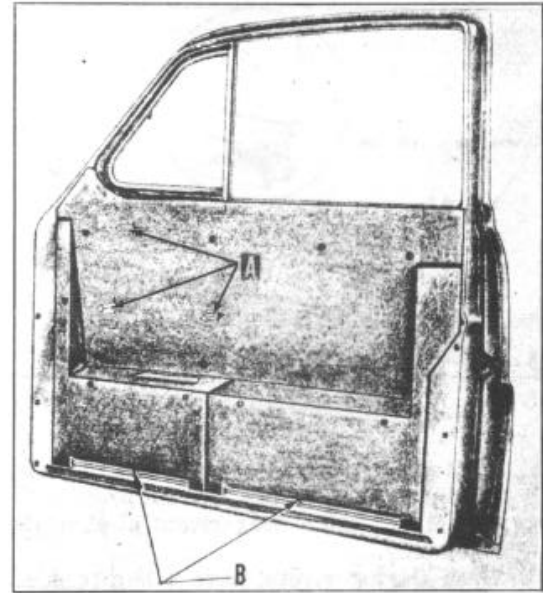

FIGURE 33
4. Insert the regulator and remote control shafts through the scored and cut holes in the liner at (A), Figure 33.
5. Tuck the bottom ends of liner inside the door panel openings at (B). (Do Not Seal.)